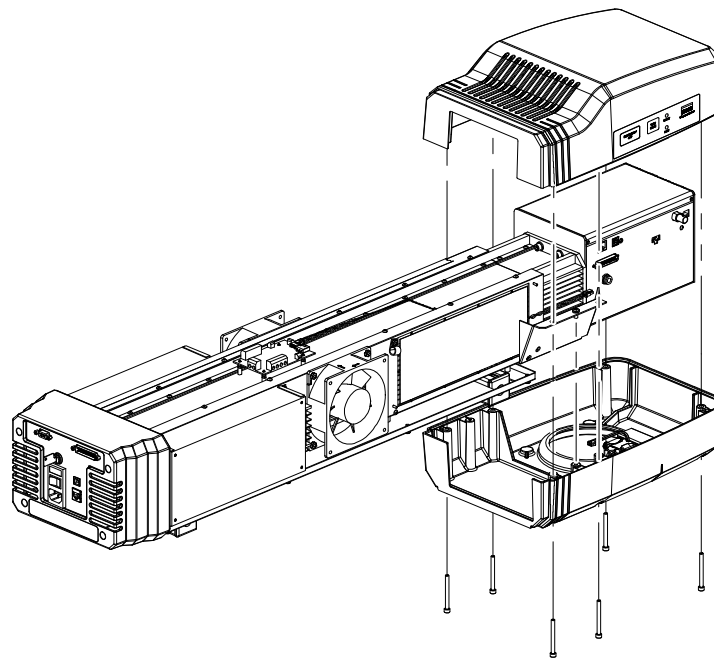

Figure 6 Removal of the two-piece Fenix Flyer front cap
A3 See Figure 6 and remove the two-piece front cap by removing six (6) Allen head capscrews holding the two halves of the front cap together. Screw access is from the lens side (bottom) half of the cap.